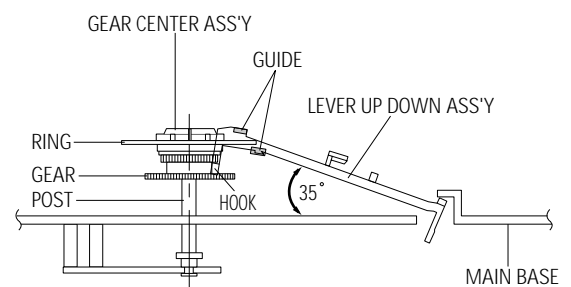

Fig. 1-22 Lever Up Down Ass'y Removal
- 1) Insert the Lever Up Down Ass'y ❶ in the rectangular holes on Main Base as shown in Fig 1-22.
- 2) Lift the Lever Up Down Ass'y ❶ about 35°. (Refer to Fig 1-22)
- 3) Insert Ring of the Gear Center Ass'y ❷ in the Guide of the Lever Up Down Ass'y ❶.
- 4) Insert the Gear Center Ass'y ❷ in the post on Main Base.
- 5) Push down the Lever Up Down Ass'y ❶ for locking of the Hook.